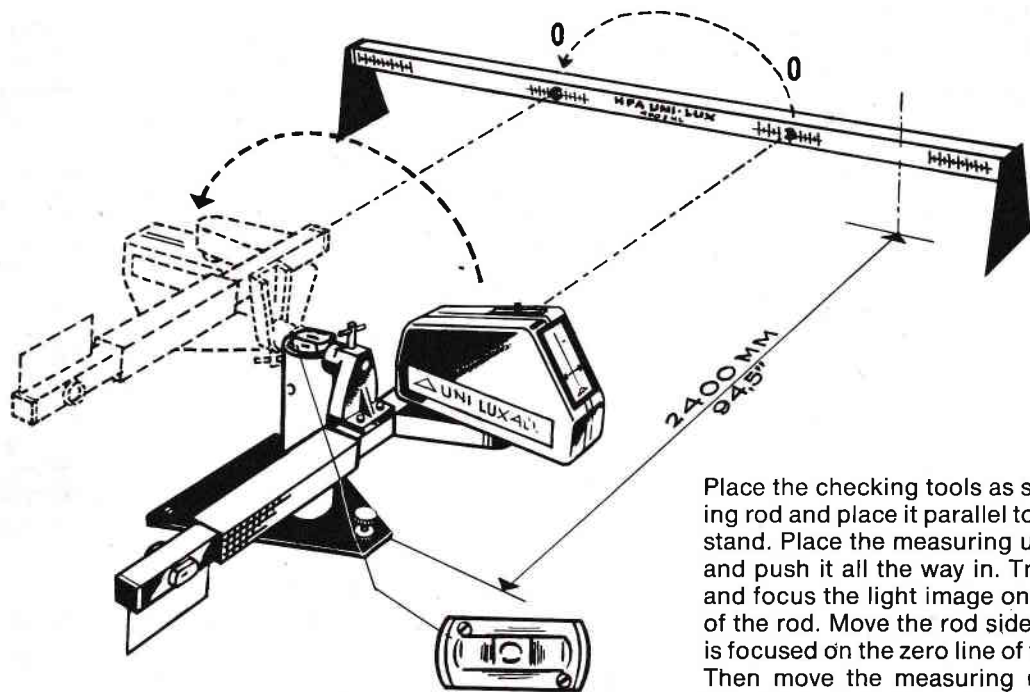

Fig. 38
5. Move the measuring unit to the other mounting pivot as shown in fig. 38. The light arrow must now be focused on the zero line. If not, adjustment must be repeated.